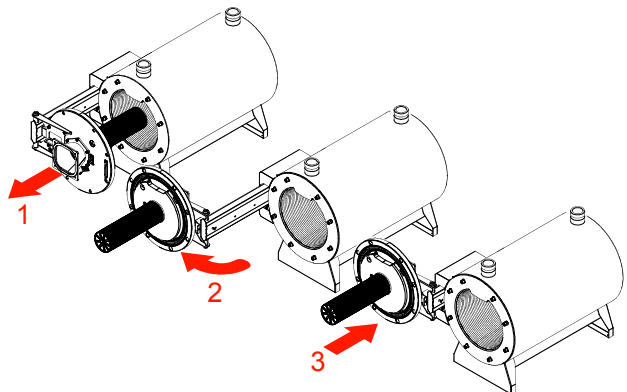

Figure 26: Burner Door Opening
- d. This unit is equipped with a sliding mechanism shown in Figure 26. Position (1) the burner assembly slides out of the combustion chamber, (2) rotate away from the combustion chamber and (3) sliding back to allow full access to the combustion chamber for inspection and service.